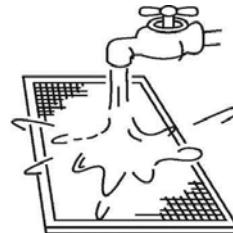

Fig.5-3
- The air-in side should face down when using water. (Refer to Fig.5-3)